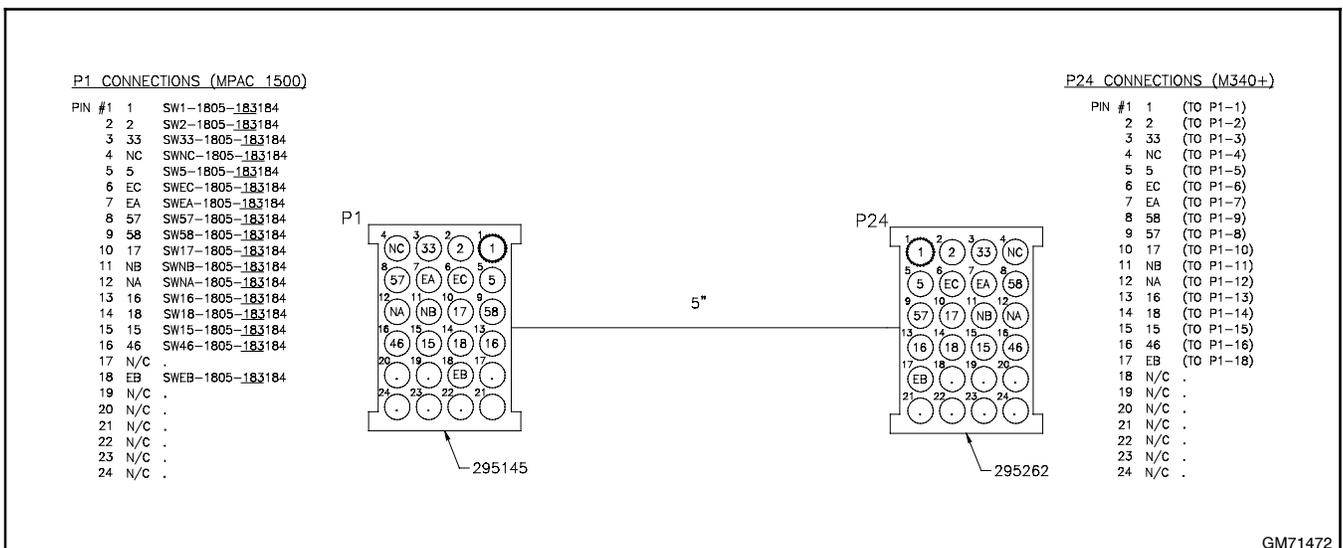

Figure 22 Conversion Kit Harness
19. Connect P24 of the conversion kit harness GM71472 to the contactor harness, which was disconnected from the M340 controller in step 10. See Figure 22.